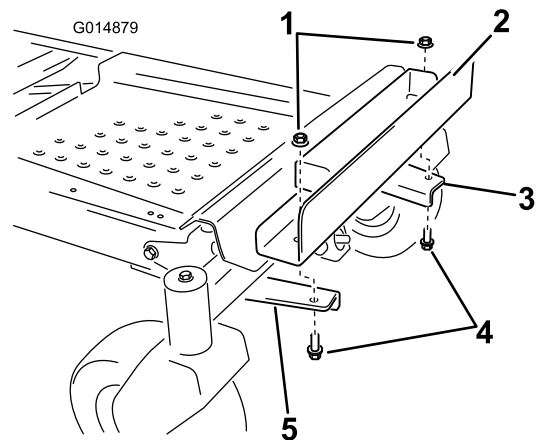

Figure 8
6. Install the weight holding bracket to the mounting brackets (Figure 8). Align the inboard holes in the bracket with the mounting brackets installed previously. Make sure the bracket is centered on the frame. Secure with two bolts (3/8 x 1 inch) and two lock nuts (3/8 inch).